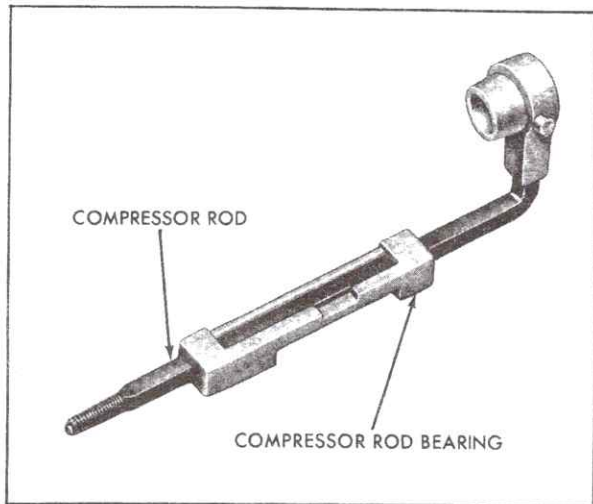

Fig. 15-27 Compressor Rod to Bearing Alignment
12. Remove compressor rod assembly from housing and slide off compressor rod bearing, Fig. 15-27.
1. Lubricate compressor rod with cam and bearing lubricant and slide compressor rod bearing on compressor rod with notch on inboard side, Fig. 15-27.